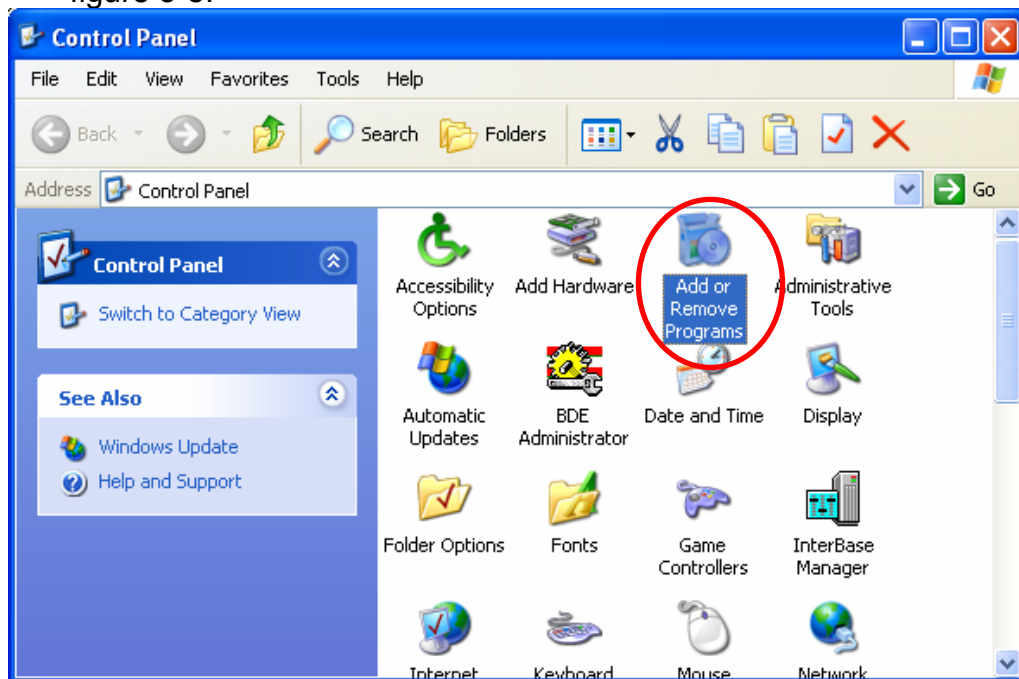

Figure 3-8: “Add/Remove Programs”
Step 2: Click the “Add or Remove Programs” button icon to open the dialog. See figure 3-8.